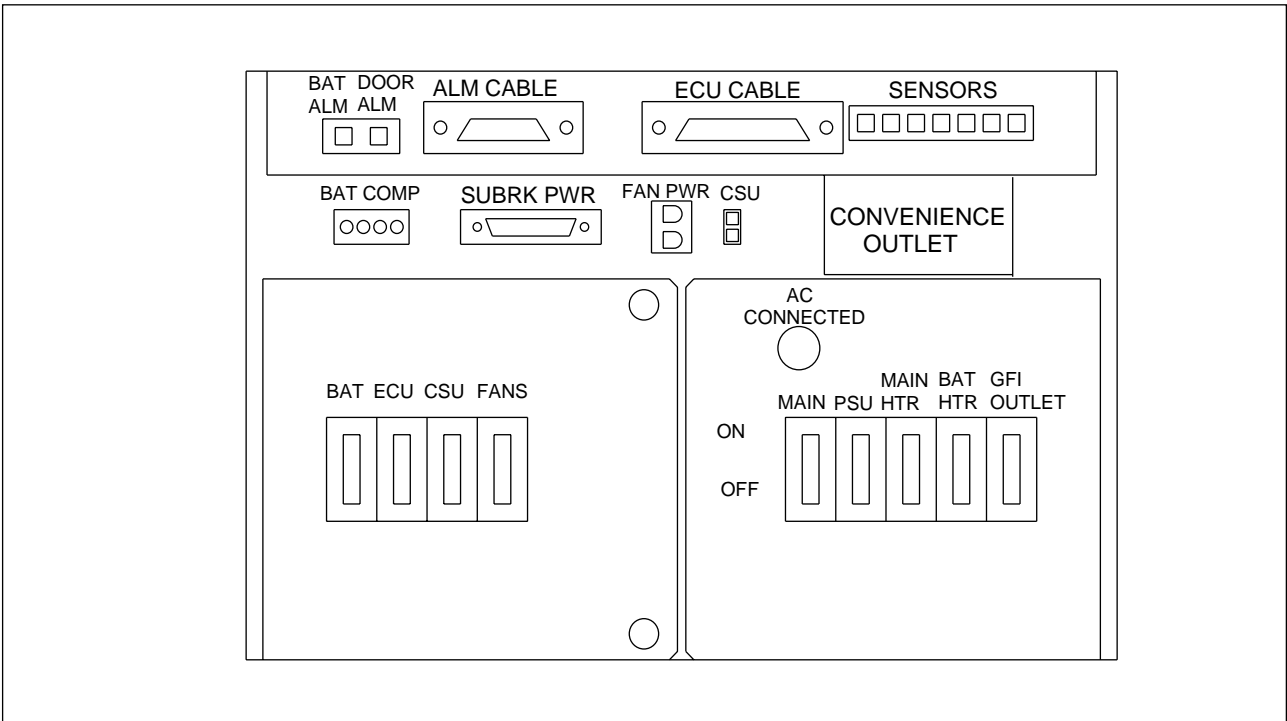

Figure 4-12. AC/DC Distribution Box
1. Position the **BAT** circuit breaker on the left side of the AC/DC Distribution Box to OFF. See Figure 4-12 on page 4-27.